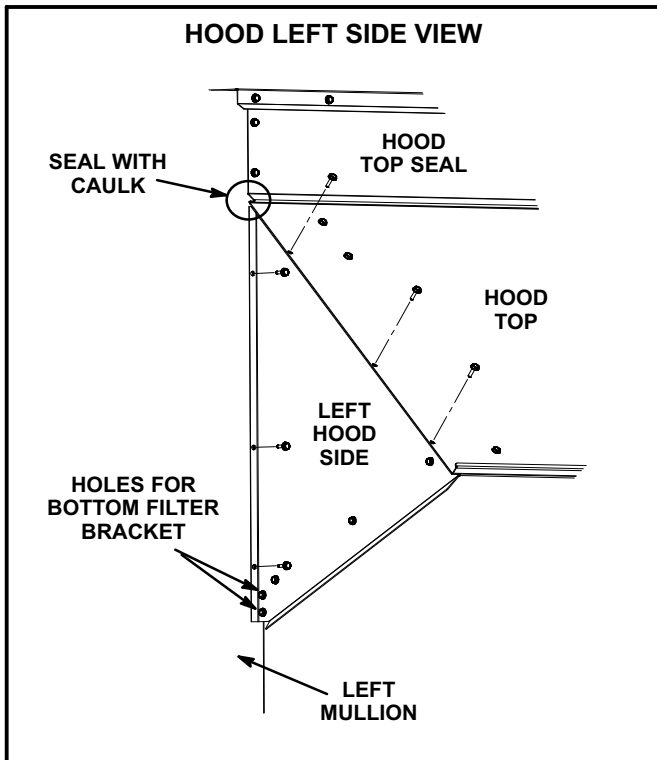

FIGURE 11
- 9- Secure left hood side to the hood top. See figure 11. Secure the left hood side to the unit using three screws removed in step 4. See figure 11.
- 18- Caulk (field-provided) both ends of the top seal and hood top as shown in figures 11 and 12.